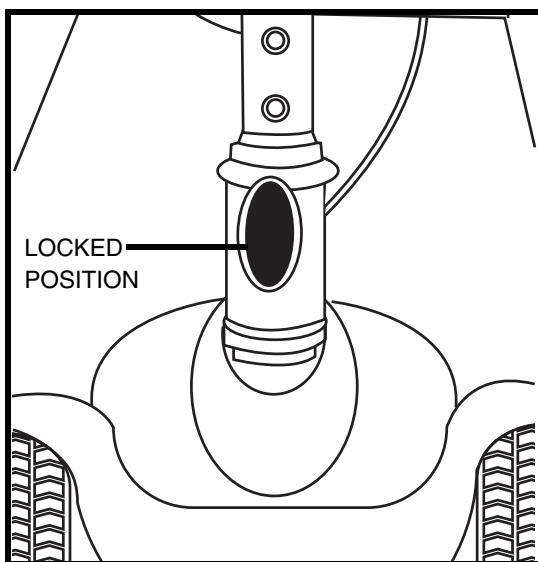

Figure 21. Tiller Lock Knob (Locked)
1. Lock the tiller in the straight ahead position by pushing the tiller lock knob in and turning it clockwise 90°. See figure 21. The front wheel must face forward in order to lock the tiller.